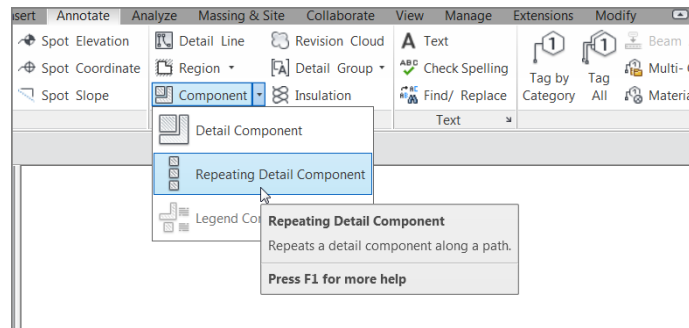

FIGURE 12.10: Select Component ➤ Repeating Detail Component.
1. On the Detail panel of the Annotate tab, select Component > Repeating Detail Component, as shown in Figure 12.10.
2. In the Properties dialog, choose Repeating Detail : Brick from the Type Selector, as shown in Figure 12.10.